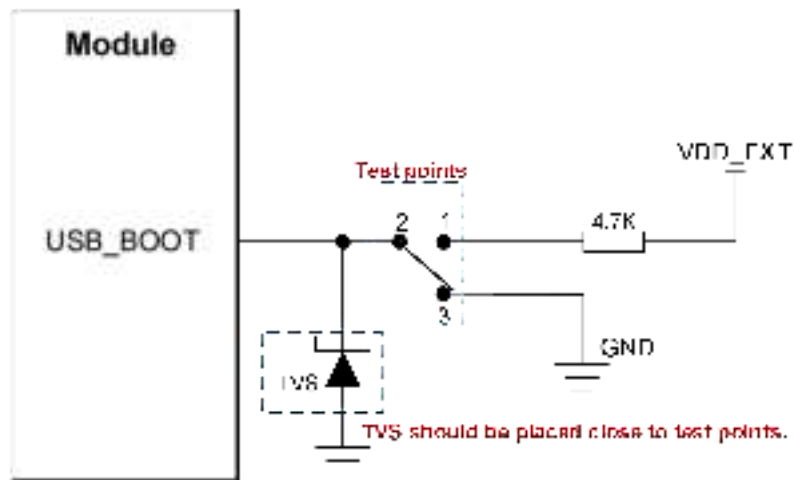

Figure 20: Reference Design of USB\_BOOT
3. If you need to manually force the module to enter download mode, directly connect the test points shown in *Figure 20*.